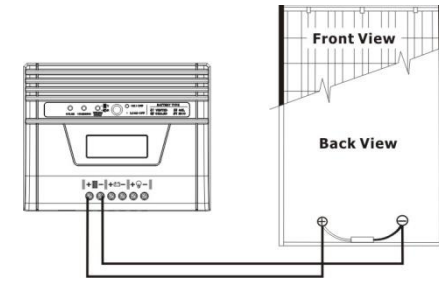

Fig. 7
**1) Single solar module connection (Refer to Fig. 7):** When using a single solar module, its voltage must not exceed the maximum solar module open circuit voltage (see below Table 1).